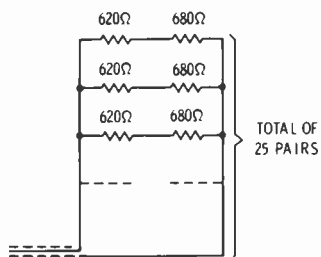

Fig. 5-5. A 52-ohm, 100-watt dummy load can be made up of paralleled 2-watt carbon resistors.
According to Ohm's law you will need another value in addition to current or volts, and that is resistance (R). The resistance is the output load impedance when the antenna is at resonance and the feeder is perfectly matched to the antenna, or a dummy load that is nonreactive and of known value. If these conditions are not met the load impedance will be more or less reactive and the reading will not give you true power output. It is obvious from this that initial measurements and adjustments should be made into a nonreactive dummy load. A dummy load can be made up of a combination of carbon resistors in parallel or series-parallel. Power handling will depend on the number and rating of the resistors. Fig. 5-5 shows the assembly of 2-watt carbon resistors to make a 100-watt dummy load. Purchase twenty-five 680-ohm 10-percent resistors and twenty-five 620-